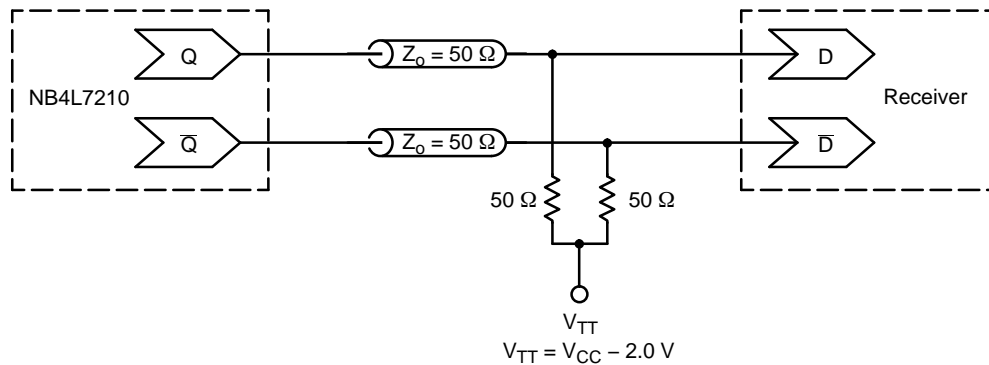

Figure 16. Typical Termination for Output Driver and Device Evaluation
- Input and Output parameters vary 1:1 with V_{CC} . Outputs loaded with 50Ω to $V_{CC} - 2.0 \text{ V}$ (See Figure 16) except SDATAOUT.
6. Measured by forcing V_{INPP} (Typ 750 mV_{PP}) from a 50% duty cycle clock source. Q/\overline{Q} Outputs loaded with 50 Ω to $V_{CC} - 2.0\text{ V}$ (See Figure 16). SCLK, SDATA and SLOAD at LOW SDATAOUT loaded 20 k Ω and 15 pF to GND.